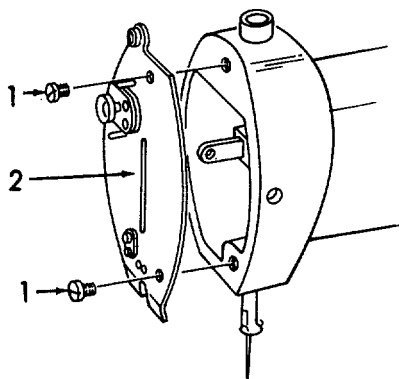

Figure 6-123. Face Plate, Removal.
a. *Removal (Refer to Figure 6-123).*